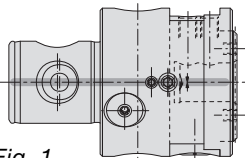

Fig. 1
- On the machine side, the precision tool is fitted with a Wohlhaupter **MULTI BORE** connection (Fig. 1) or alternatively with HSK in monoblock design. Other versions on request.